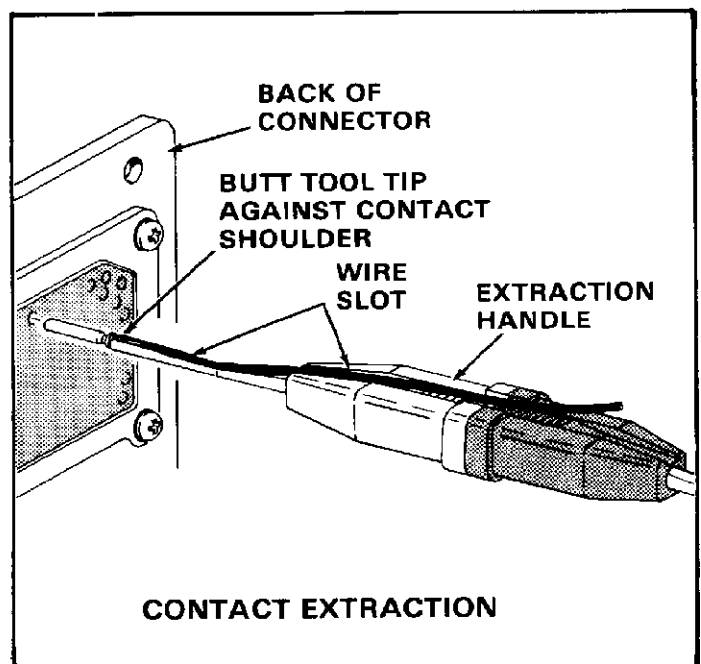

Fig. 2
2. While applying light pressure on the wire, slide your thumb over the wire and toward the tip of the tool. The tool tip will spread, allowing the wire to enter the tip as shown in Figure 2.